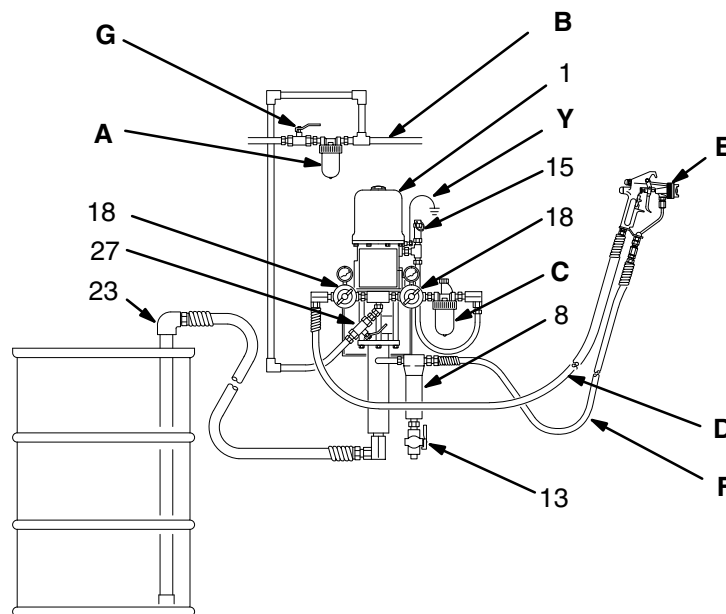

Fig. 2
Figure 2 is only an example for selecting and installing system components and accessories. Contact your Graco distributor for assistance in designing a system to suit your particular needs.
Refer to Figure 2. Bring a compressed air supply line (B) from the air compressor to the pump location. Be sure all air hoses are properly sized and pressure-rated for your system. Use only electrically conductive hoses.
Refer to Figure 2.
2. Unscrew the swivel elbow (H) from the end of the suction kit (23) and discard the elbow. See Fig. 2. Screw the rigid end of the manifold (36†) onto the pump intake, and attach its swivel end to the suction kit (23).
3. Screw the mounting stud (41†) into the outlet in the base of the back pressure regulator (40†). Install the fluid pressure gauge (45†) in the inlet of the back pressure regulator. Remove the plugs from the optional inlet and outlet of the back pressure regulator. Install one 1/4 npt nipple (11†) in the regulator's optional outlet (K), and the other 1/4 npt nipple (11†) in the optional inlet (J).
4. Place a lockwasher (42†) and washer (43†) on the mounting stud, and insert the stud through the mounting hole in the right side of the pump wall bracket (7). Secure the regulator with a lockwasher (42†) and nut (44†) on the inside of the pump wall bracket.
5. Install the CIRC end of the three-way ball valve (37†) in the open port of the pump fluid intake manifold (36†). Screw the elbow (47†) onto the IN branch of the three-way valve. Connect one end of the hose (39†) to this elbow, and the other end to the nipple (11†) at the back pressure regulator's optional outlet (K).
7. Connect the fluid return line to the nipple (11†) at the back pressure regulator's optional inlet (J).